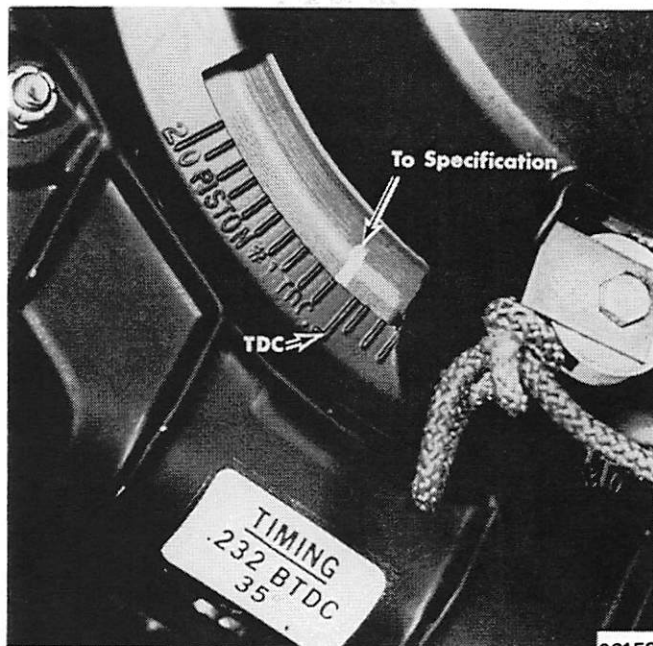

Figure 6. Timing Mark Alignment
5. Close throttle with twist grip. Open throttle to align timing line on top side of ring gear with timing mark specifications shown on starter housing. (Figure 6)